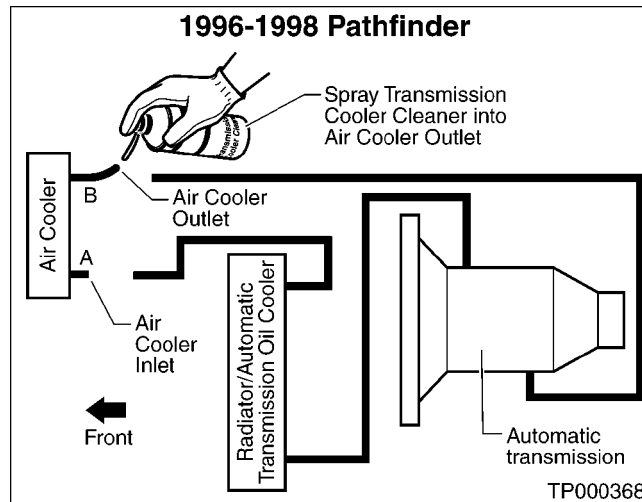

Figure 8
1. Place an oil drain pan under the A/T air cooler Inlet and Outlet hoses (see Points A and B, Figure 8).
2. Disconnect the Inlet and Outlet hoses from the air cooler (see Points A and B, Figure 8).
3. Insert the “extension adapter hose” from a can of Transmission Cooler Cleaner (Nissan P/N 999MP-AM006) into the air cooler Outlet hose (see Point B, Figure 8).
4. Hold the hose and can as high as possible. Spray Transmission Cooler Cleaner in a continuous stream into the air cooler Outlet hose until fluid flows out of the air cooler Inlet hose for 5 seconds (Point A, Figure 8).